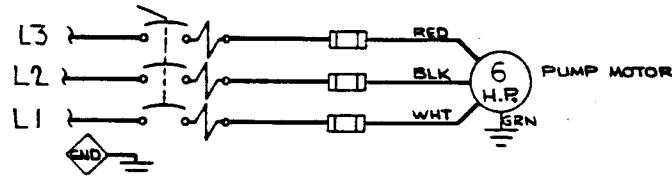
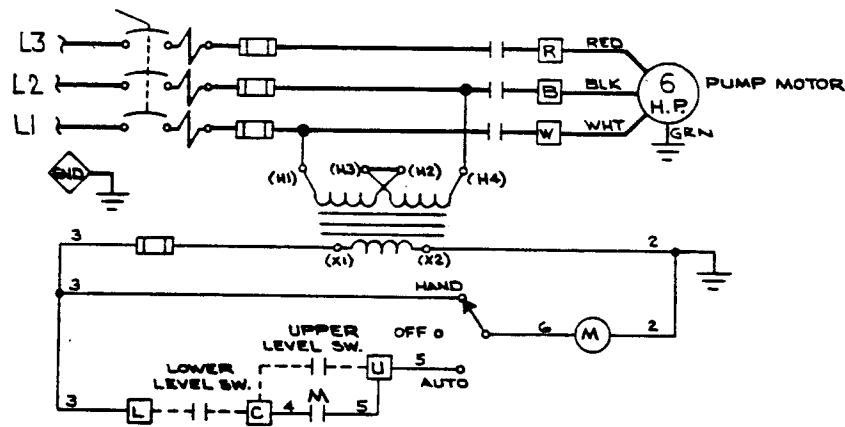
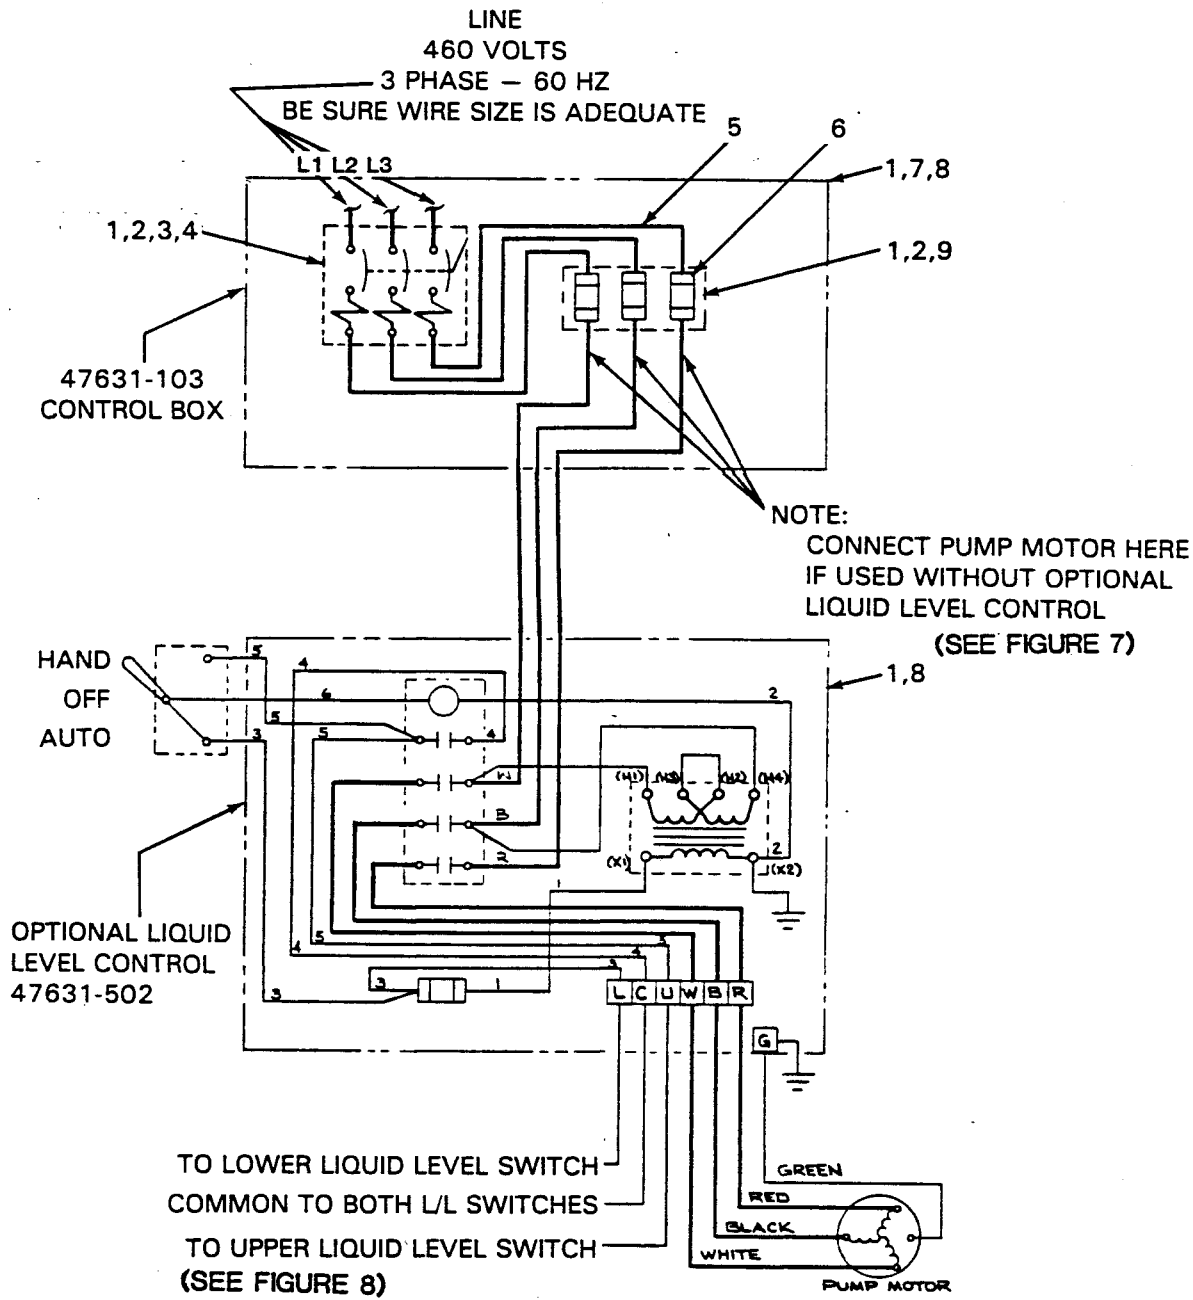

Figure 7. Elementary Wiring Diagram (Without Liquid Level Controls)
Figure 8. Elementary Wiring Diagram (With Liquid Level Controls)
Figure 9. 47631-103 Control Box Assembly - Pictorial Wiring Diagram
See Figure 9 on page B-16 for internal parts.
- a. Measure the incoming voltage across lines (1 & 2, 2 & 3, and 1 & 3.) while the pump is **operating at full capacity**. See Figure 7 on page B-15 or Figure 9 on page B-16.
Connect the pump power cable to the control box as shown in Figure 7 on page B-15 or Figure 9 on page B-16. Use conduit or cable clamps to secure the power and accessory cables to the control box. Make certain that all connections are tight and that cable entry points are rainproof.
If liquid level controls are to be installed, connect the motor power cables and level control power cables as shown in Figure 8 and Figure 9 on page B-16.
See Figure 9 on page B-16 for a pictorial wiring diagram and callouts of the control box assembly internal parts.